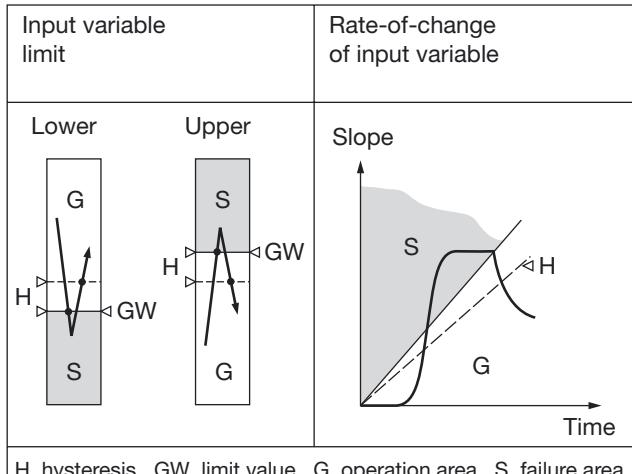

Fig. 3. Switching function according to limit monitored.
– for monitoring the input variable in relation to a lower or upper limit between -10 and +110%² (see left side of Fig. 3)
between ± 1 and ± 50%/s² (see right side of Fig. 3)